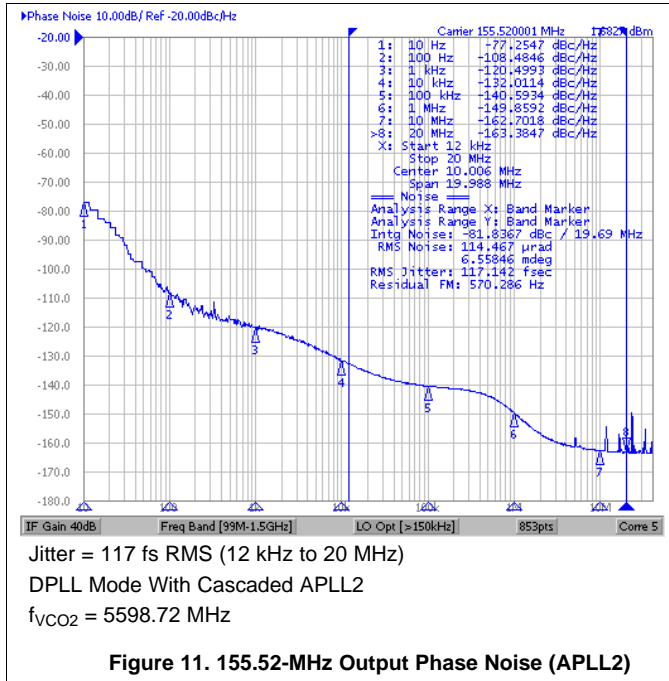
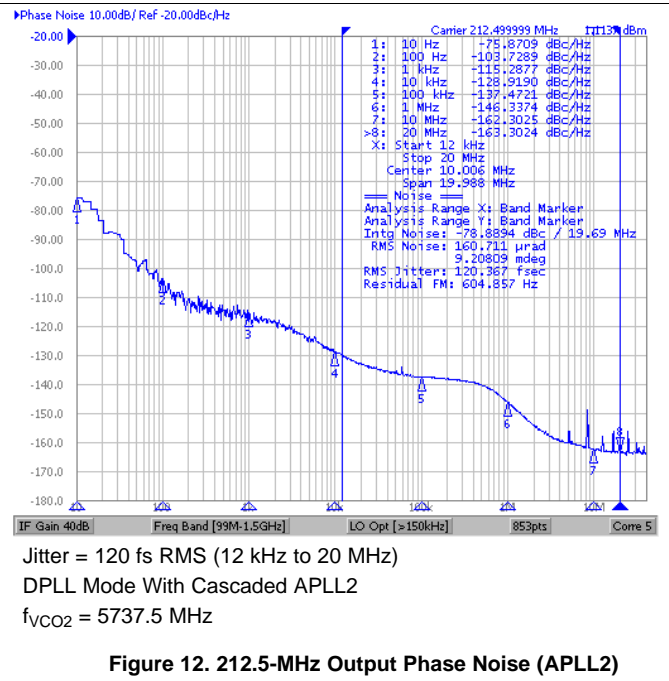

Figure 11. 155.52-MHz Output Phase Noise (APLL2)
Figure 12. 212.5-MHz Output Phase Noise (APLL2)
**APLL2:** fPD2 = 138.8 MHz (fVC01÷18), BWAPLL2 = 500 kHz, Cascaded APLL2 mode for Figure 11 and Figure 12.
APLL2:  $f_{PD2} = 138.8 \text{ MHz}$  ( $f_{VCO1} \div 18$ ),  $BW_{APLL2} = 500 \text{ kHz}$ , Cascaded APLL2 mode for Figure 11 and Figure 12.